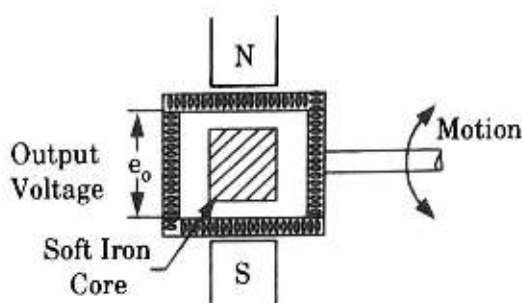

Fig. 5.11.1. Electrodynamic transducer for rotary motion.
- Fig. 5.11.1 shows an electrodynamic transducer for measuring rotary motion. The coil moves in the annular space between a magnet and a soft iron core, generating a voltage in the coil.